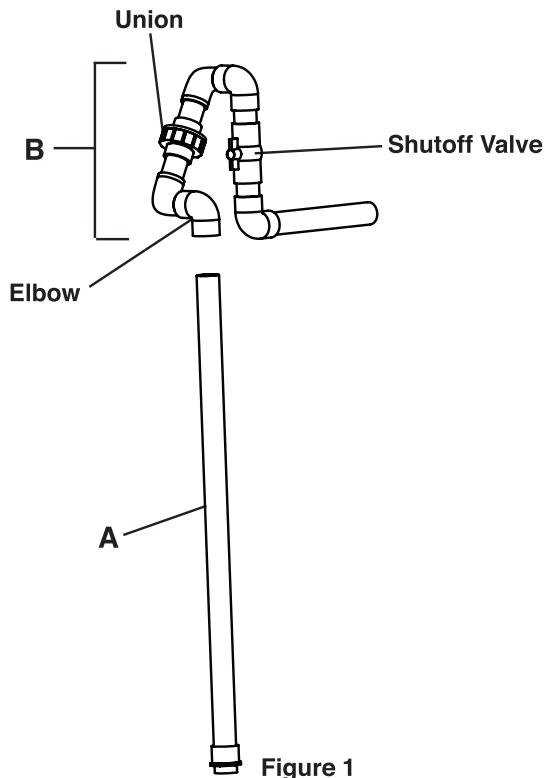

Figure 1
Step 4: Insert the preassembled 40" PVC pipe with pipe adapter (Figure 1, part A), pipe adapter end first, into the pump. Lower the pump into the pump chamber of the housing. Note: The chamber is designed to handle either one or two STEP pumps. A single pump can be located in either side of the chamber. Place a mark on PVC pipe "A" at the height necessary to be below frost line, per local code.
Step 5: Position the rest of the discharge kit (Figure 1, part B) with the open end of the elbow beside the pipe marking. This determines the discharge exit location on the riser. Mark the location where the discharge pipe will exit on the riser.
Step 7: Cement the remaining loose joints in the discharge kit (figure 1, part B). Several joints in the discharge kit are left uncemented at the factory to allow adjustments during installation. Verify that all joints are properly cemented and leak free before putting the filter into service.